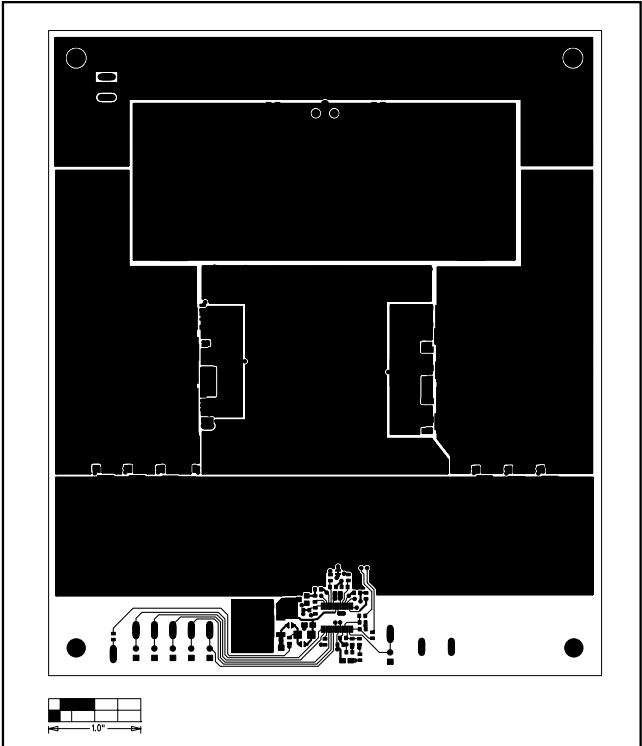

Figure 3. MAX1938 EV Kit PCB Layout—Component Side
- 9) Use a DMM to monitor the output voltage. Connect the positive (+) terminal of DMM 2 to the pad labeled OUT (located in the upper-left corner of the EV kit board as shown in Figure 3). Connect the common (COM) or ground terminal of the DMM to the GND pad (located next to the OUT pad in the upper left corner).